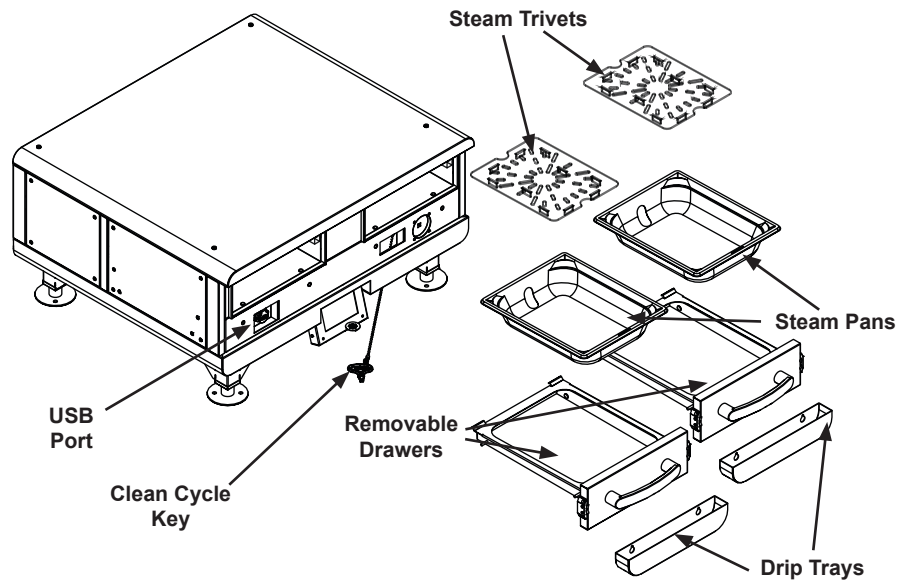

Figure 2. Steamer Components
5. Install components onto steamer as shows in Figure 2.